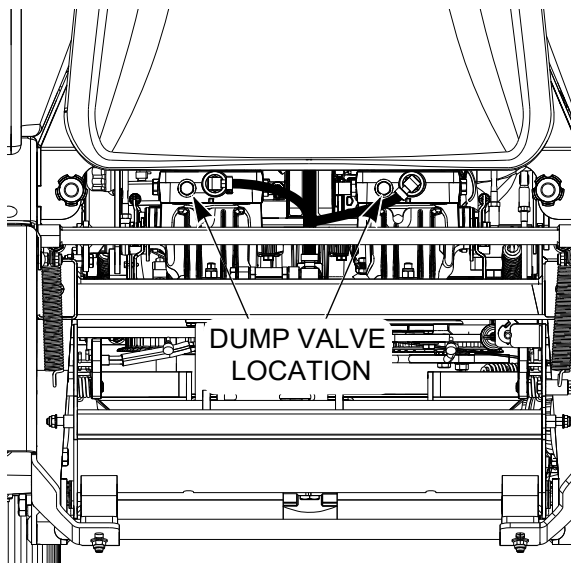

Figure 4-3. Dump Valve Controls
- 15. Dump Valve Controls (Figure 4-3).** Located on the hydraulic pumps, use to “free-wheel” the mower. Rotating clockwise until they stop allows the unit to move under hydraulic power. The levers must be in this position and torqued to 7-10 lb-ft during operation of the mower. Rotating counter-clockwise allows the mower to be moved by hand (free-wheeling). See Figure 4-3.